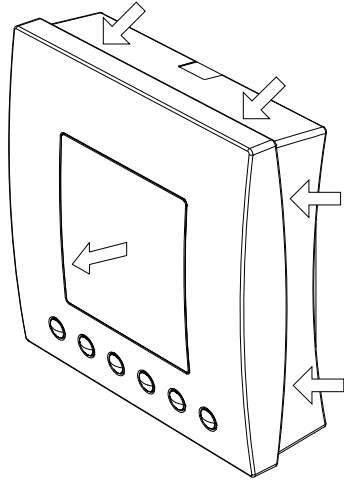

Figure 3: Removing the Surface Mount Casing
1. Remove the Display panel from the device by gently pressing on the panel and pulling the front panel outward (Figure 3).